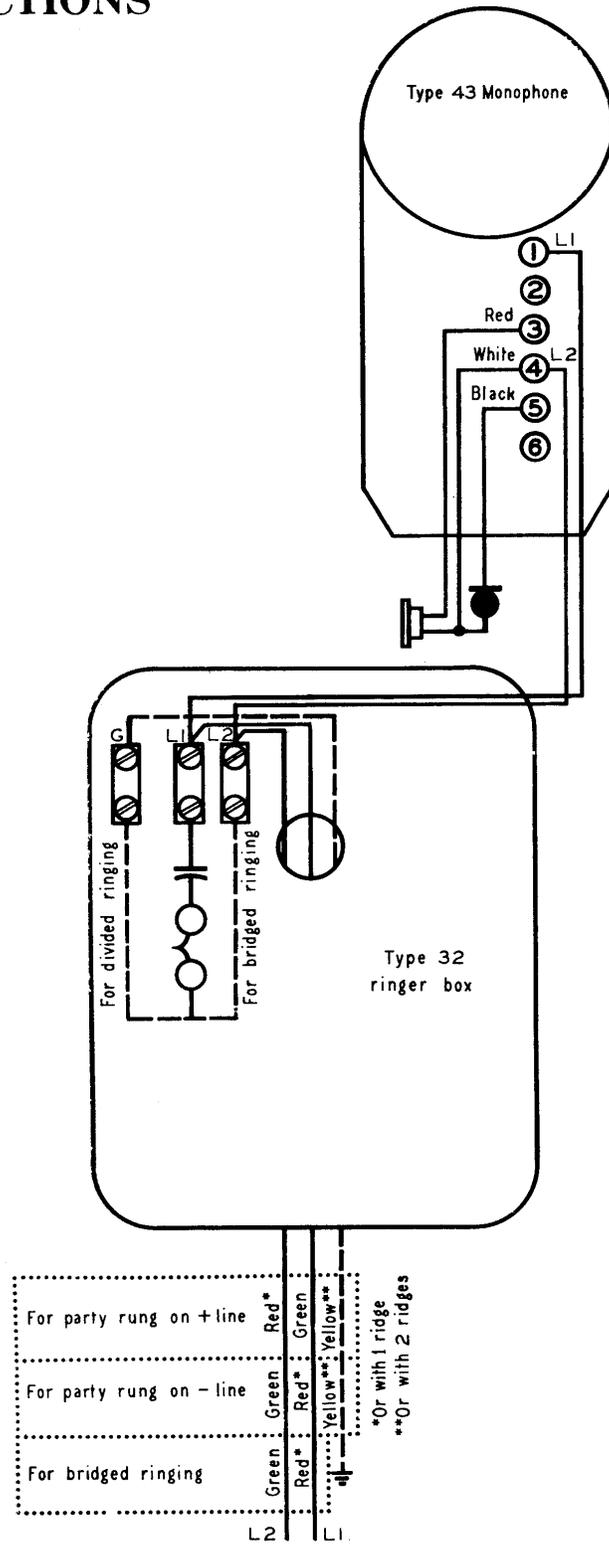

Figure 7. Connection diagram.
8.1 *With type 32 ringer box.* Mount the ringer box under the desk, on the wall, or in any convenient location. Run the line wires to the ringer-box terminal strip. Connect per figure 7.
8.2 *With ringer box other than type 32.* If the ringer box has a capacitor, connect per §8.1 and figure 7.